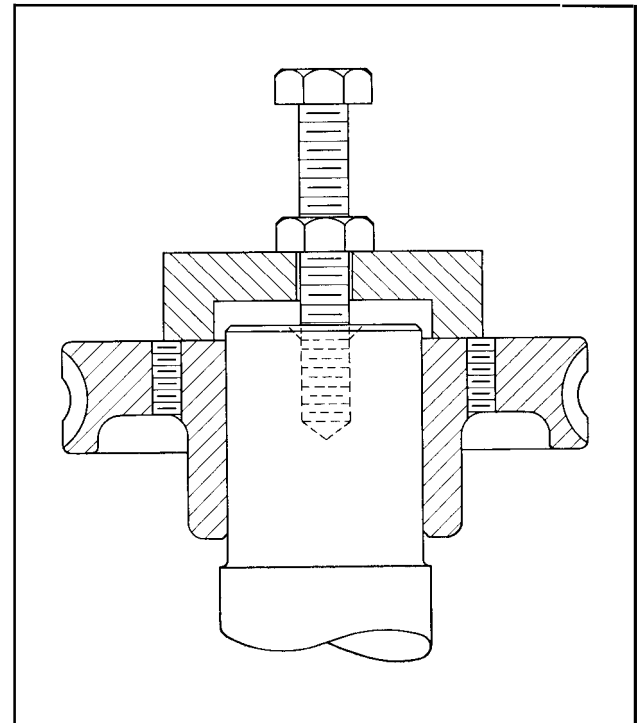

FIG. 11. Lowering Worm Gear
c. Drive the gear segment down as shown in Fig. 11 to release the pressure on the tapered gib key.
Before replacing the worm gear, heat it in an oven to 130 degrees C. It can then be pressed on using a bar and bolt as shown in Fig. 11. Before driving in the tapered key, a block or wedge should be placed between the worm gear hub and the stator top plate to prevent driving the gear farther down. If the key and gear are spot marked before disassembly, they can be easily returned to their correct positions.